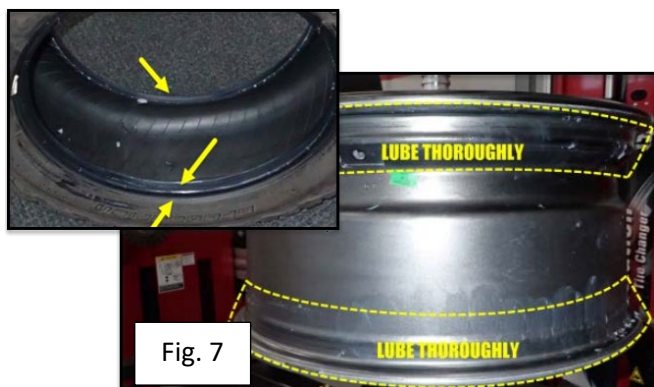

Fig. 7
- a) Apply tire lube on tire bead and bead location on wheel. Figure 7.